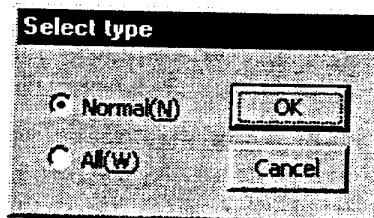

Figure 7.31 "Select type" dialog box
Click "*Upload (U)*" in the "Program Manager" menu to display the "Select type" dialog box (see Figure 7.31).